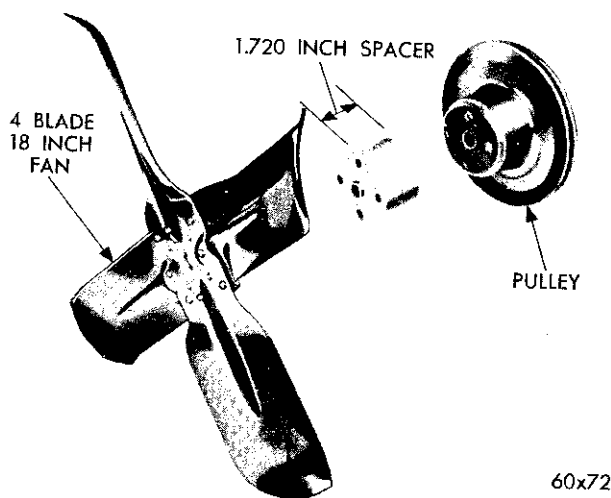
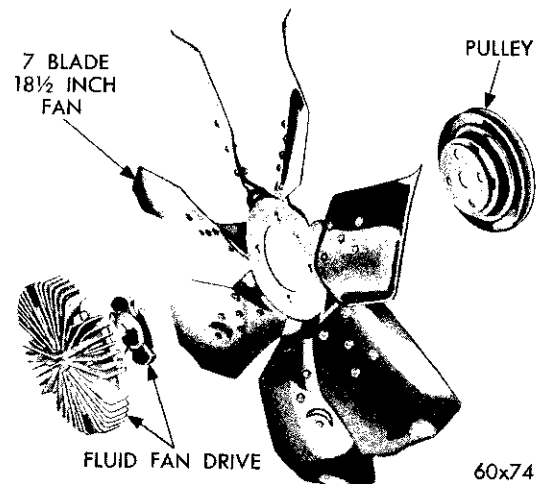

Fig. 1—Standard Fan Drive (Exploded View)
Fig. 2—Silent Flite 7 Blade Fan Drive (Air Conditioning only) (Exploded View)
temperatures. Models with standard equipment have a 4 blade, 18 inch fan, as shown in Figure 1, and models equipped with air conditioning have 7 blade, 18½ inch fan, as shown in Figure 2, except on Model PS-3, which has an 18 inch fan with air conditioning.
4. SILENT FLITE FAN DRIVE (Fig. 2)